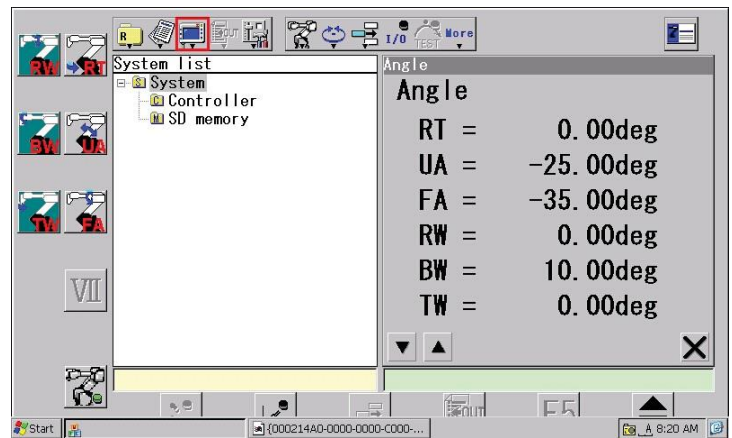

Figure 2
- Move the robot using the Joint Coordinate motion and set the angles to those in Figure 2.